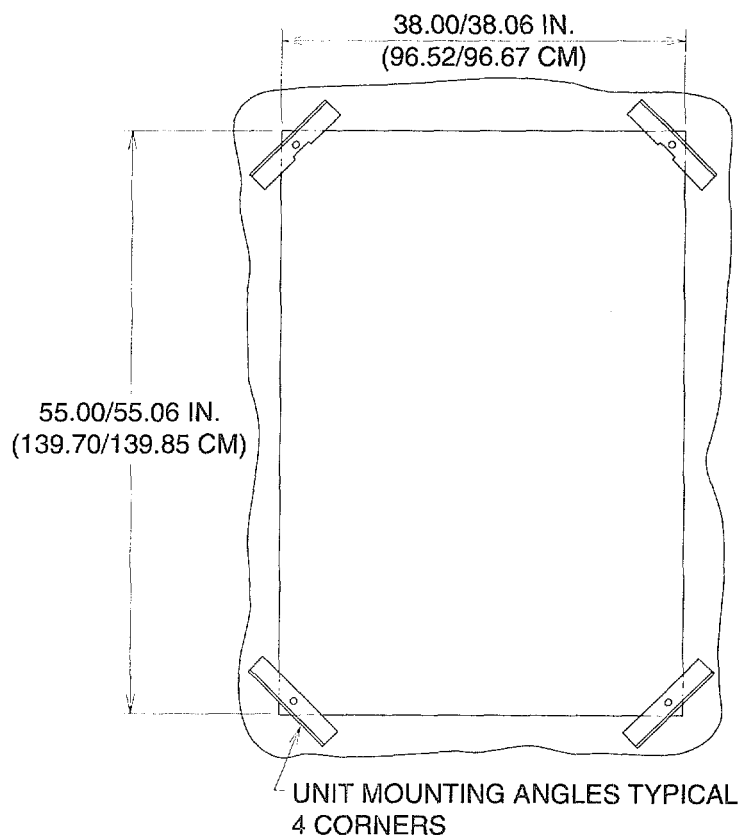

Figure 4-1. Wall Opening Dimensions
b. Refrigerator Enclosure Preparation. The refrigerator enclosure must have an opening 38.00/38.06 inches (96.52/96.67 cm) wide and 55.00/55.06 inches (139.70/139.85 cm) high (fig. 4-1) to insert the refrigeration unit. If an opening does not already exist in the enclosure, see the enclosure manual for information on making such an opening.